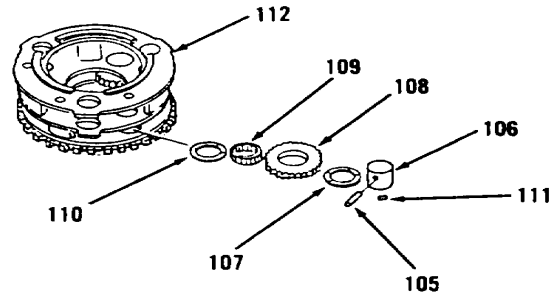

Figure 14-69.
6. Install three discs (110), rollers (109), gears (108), discs (107) and shafts (106, Figure 14-69).